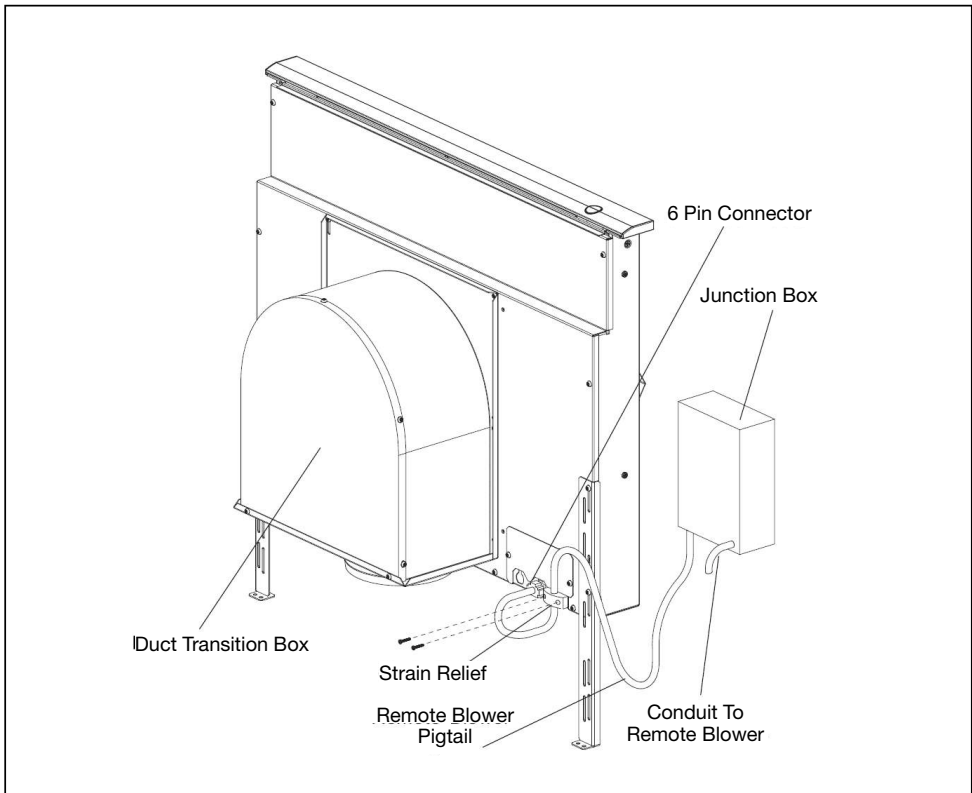

Fig. 10 – Remote Blower
Remote or Inline Blower (see Figures 10 and 11 for further detail):
- A. Remove junction box cover and connect conduit with 5 wires from remote blower. Hook up wires per Wiring.Fig. 10. Replace junction box cover.